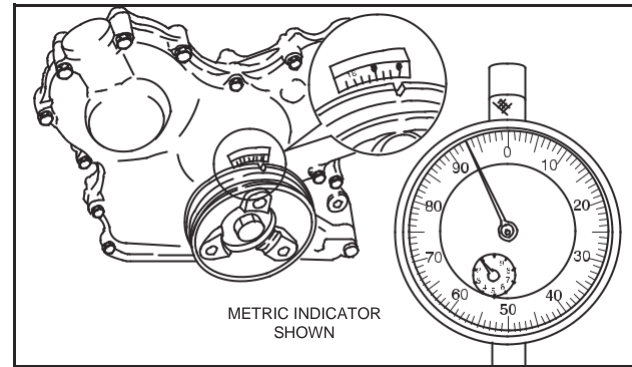

Fig. 5 – Checking Timing
5. Slowly rotate crankshaft clockwise until timing mark on pulley aligns with reference point on gear case cover (TDC), Fig. 5. Note dial indicator reading.